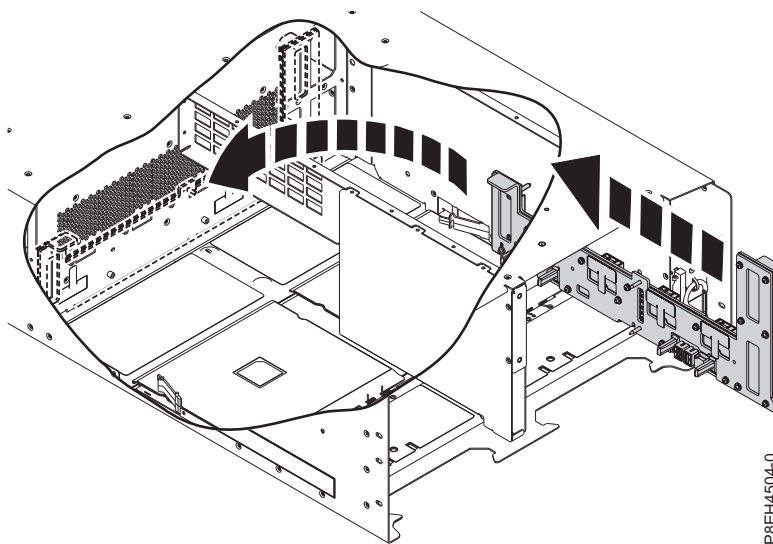

Figure 15. Replacing the midplane
4. Replace the midplane through the empty right I/O module bay. Pins at the rear of the midplane aid in correctly seating the midplane into position. See Figure 15.